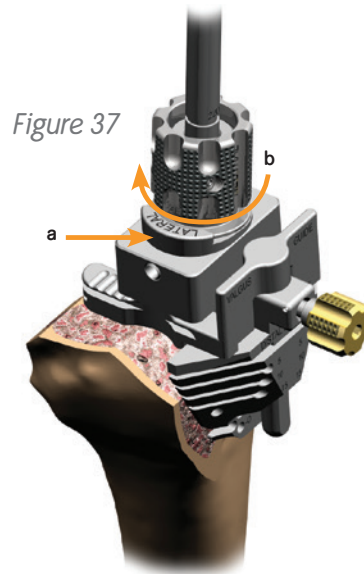

Figure 37
1. Slide the valgus guide assembly over the shaft of the reamer (or Trial Stem Connection Rod Assembly) and flush with the distal femur (Figure 37).